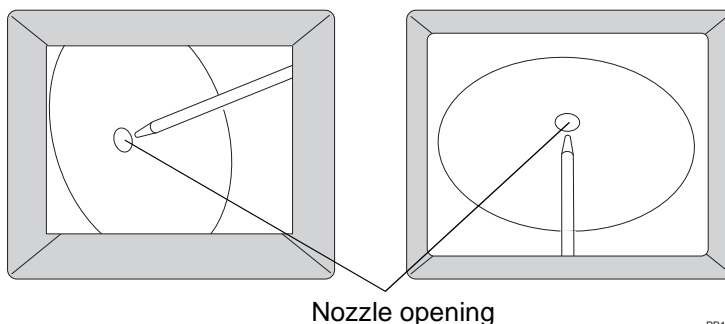

Figure 4-8 Optimum Nanospray Spray Tip Position (Camera View)
The ideal position for the nanospray spray tip is 2 to 5 mm from the nozzle opening (Figure 4-8).
- Optimum spray tip position is 2 to 5 mm from the nozzle opening. See Figure 4-8 on page 42.